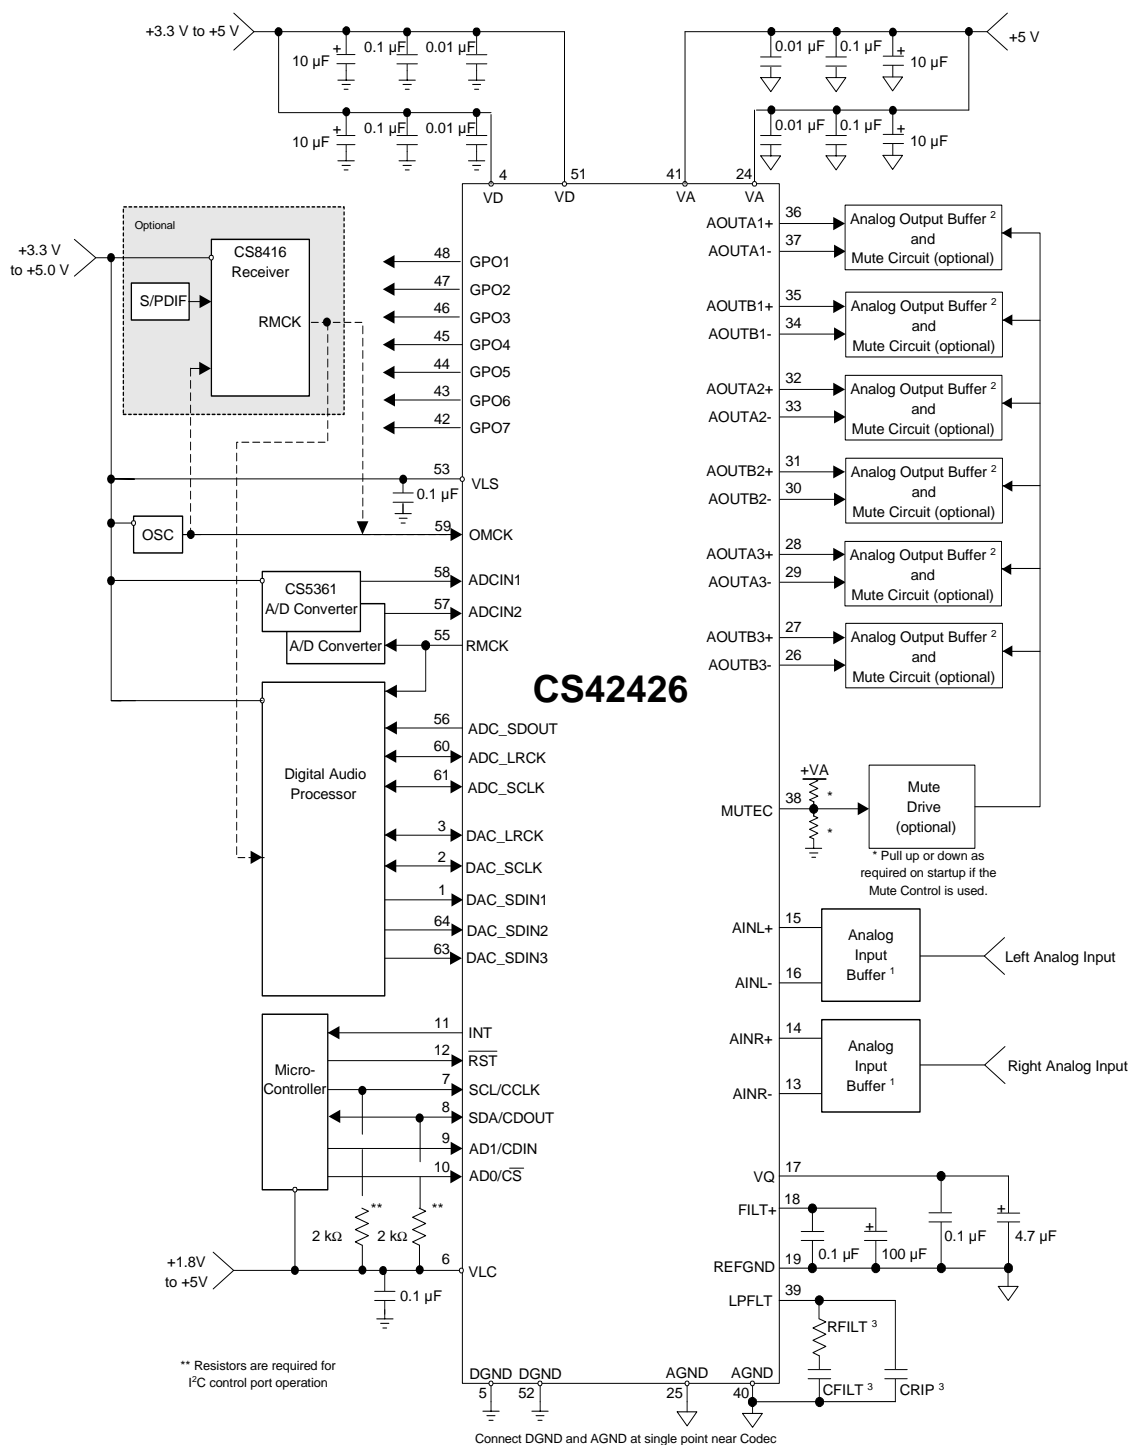
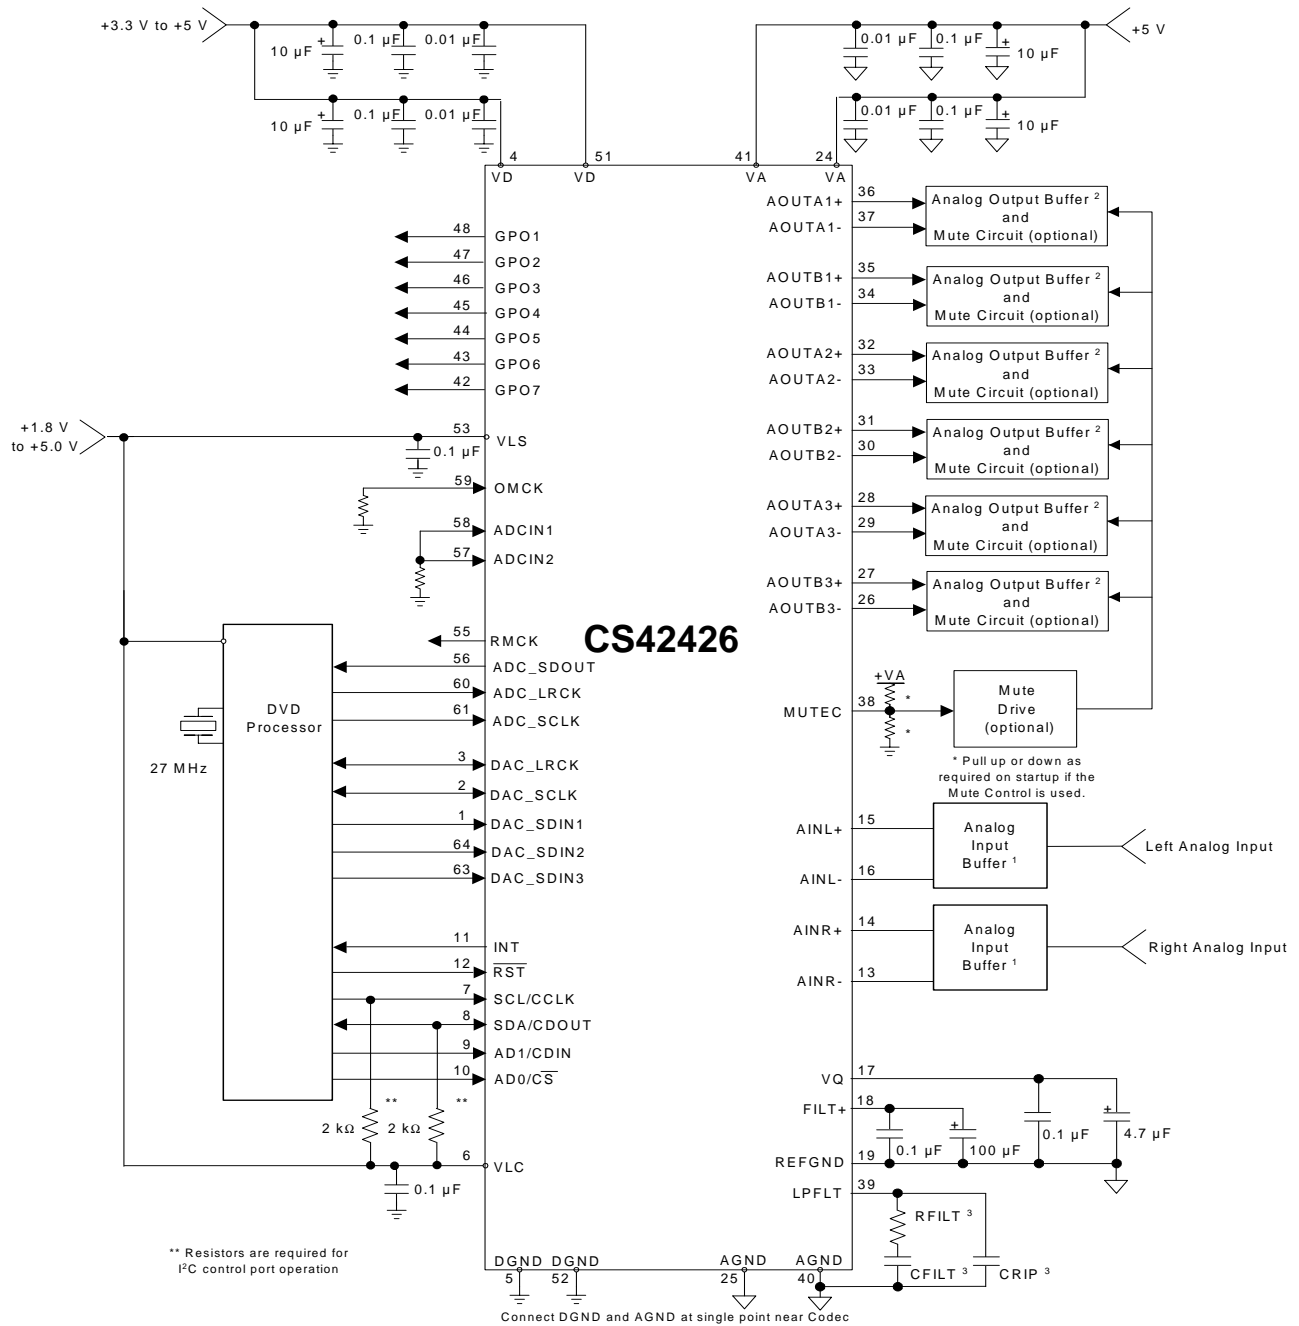

Figure 5. Typical Connection Diagram
Figure 6. Typical Connection Diagram using the PLL
25. Valid with the recommended capacitor values on FILT+ and V_Q as shown in Figure 5.
The CS42426 is a highly integrated mixed-signal 24-bit audio codec comprised of 2 analog-to-digital converters (ADC), implemented using multi-bit delta-sigma techniques, and 6 digital-to-analog converters (DAC). Other functions integrated within the codec include independent digital volume controls for each DAC, digital de-emphasis filters for DAC, digital gain control for ADC channels, ADC high-pass filters, and an on-chip voltage reference. All serial data is transmitted through one configurable serial audio interface for the ADC with enhanced one-line modes of operation, allowing up to 6 channels of serial audio data on one data line. All functions are configured through a serial control port operable in SPI mode or in I²C mode. Figure 5 and Figure 6 show the recommended connections for the CS42426.